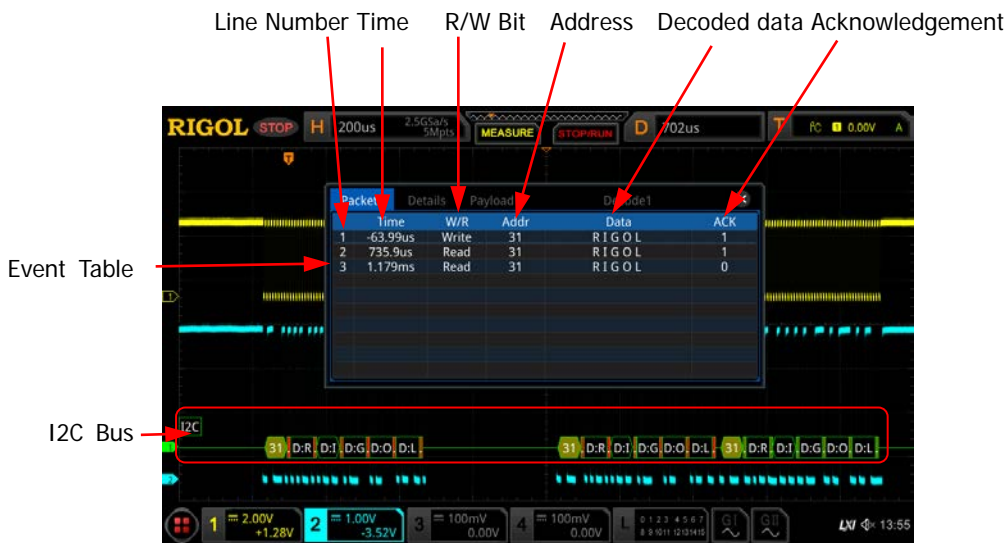

Figure 12-6 I2C Decoding Event Table
- Open or close the event table: Press **Event Table** continuously to enable or disable the event table. When you enable the event table, the following figure is displayed, as shown in Figure 12-6. You can also enable the touch screen to tap the icon  at the upper-right corner of the table to close the event table. Besides, when the operating status is "STOP", you can also rotate the multifunction knob  to select a